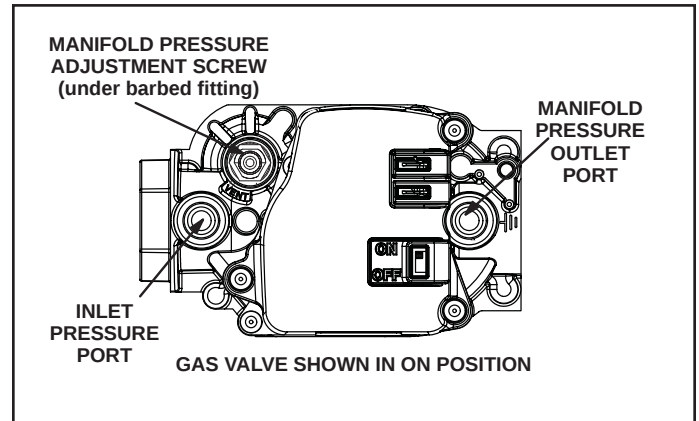

Figure 55. Gas Valve
Gas Valve Operation (Figure 55)
6. Move gas valve switch to OFF. See Figure 55.
8. Move gas valve switch to ON. See Figure 55.
When testing supply gas pressure, use the 1/8" N.P.T. plugged tap located on the gas valve to facilitate test gauge connection. See Figure 55. Check gas line pressure with unit firing at maximum rate. Low pressure may result in erratic operation or underfire. High pressure can result in permanent damage to gas valve or overfire.